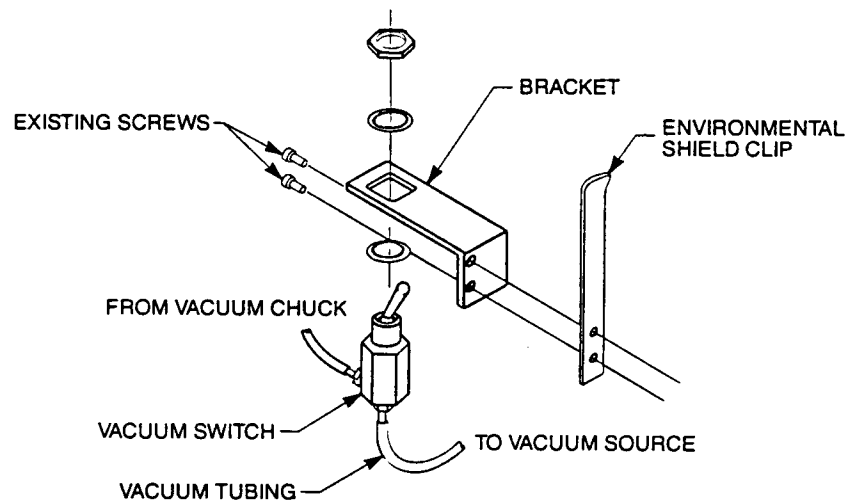

Figure C-3. Vacuum Switch Assembly
13. With the 3/32" driver, remove the two 4-40 x 1/4" socket head screws from the environmental shield retainer mounted inside the right front of the scan head (see Figure C-3).